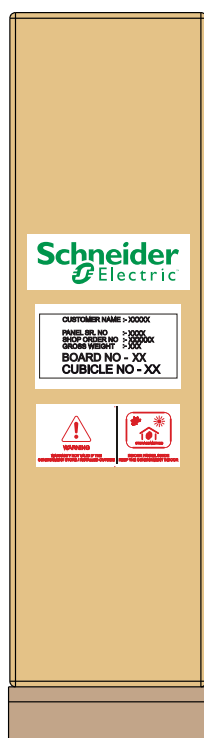

Figure 5
- If packed exclusively for land transport, the cubicles are dispatched on a pallet with cardboard box as shown in the Figure 5.